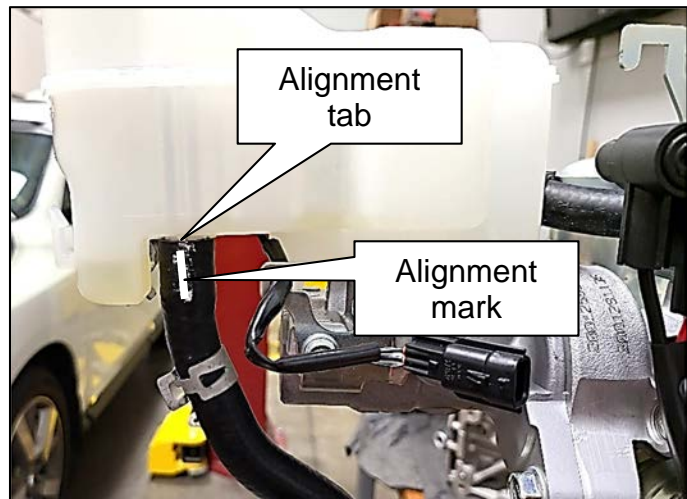

Figure 37
- Align the white alignment mark of the rubber brake hose to the alignment tab on the reservoir, as shown in Figure 37, and then secure the hose clamp.